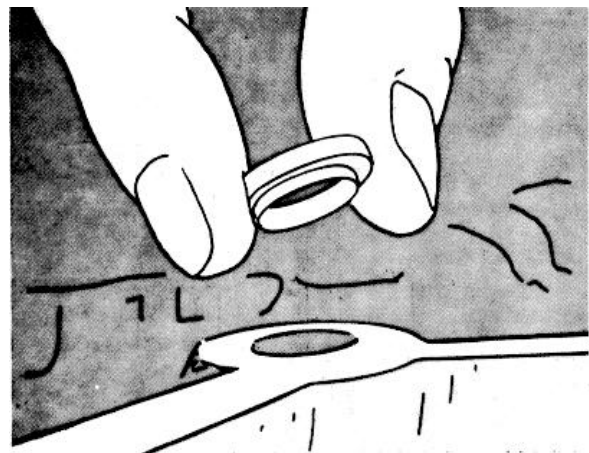

Fig: 20-3. Install The Jacobs Brake Steel Washers.
11. Install the Jacobs Brake steel washers into the mounting holes of the rocker lever housings, Fig. 20-3.